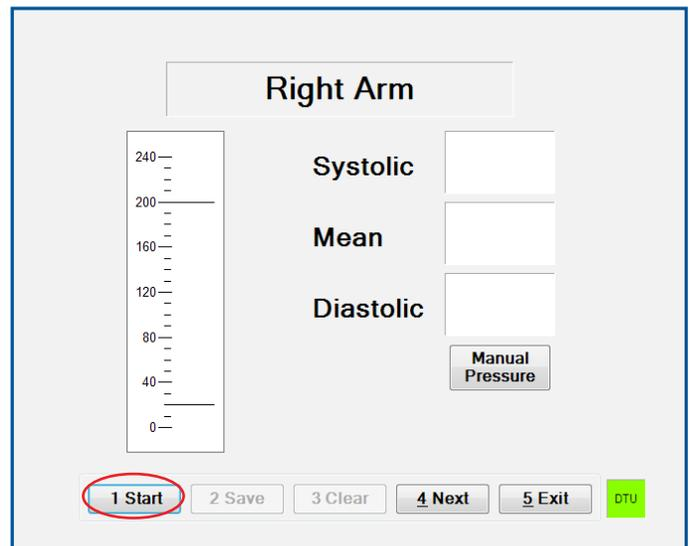

FIGURE 1.13 - Right Arm - “Start” Button
13. Connect tubing to the Right Arm cuff. Place PPG probe on the third finger of the right hand. Click “Start” (Figure 1.13).